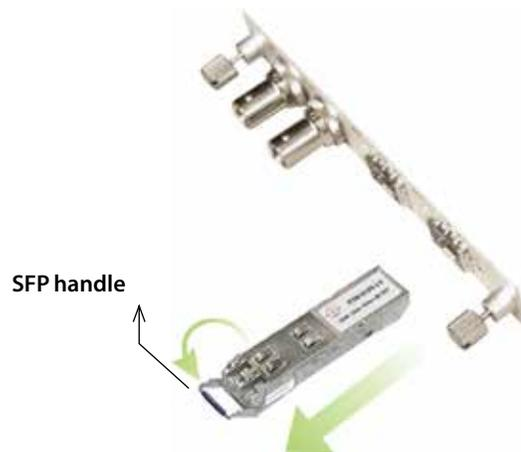

Figure 9. Removing the SFP
2. Pull down on the SFP handle to dislodge the SFP from the DLC300 module (see Figure 9).